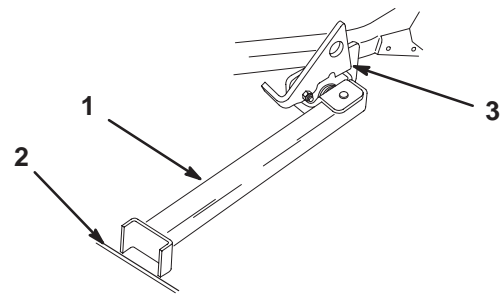

Figure 25
4. Set the foot of the stand on the ground and rest the latch on the pivot tab (Fig. 25).
Note: For best results, place the foot of the stand into seams in sidewalks or into turf (Fig. 25).
6. Drive onto the stand. Stop when the latch drops over the tab into the locked position (Fig. 25). Once onto the stand, engage the parking brake. Shut off the engine.